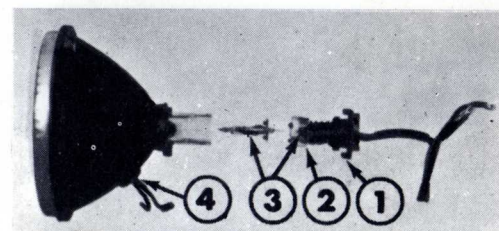

Fig. 38 - Main beam/Dipped (large diameter)
A. "Marchal" component (Fig. 38 ).
Fig. 38 a - Main beam/Dipped (large diameter)
B. "Cibié" component (Fig. 38 a).